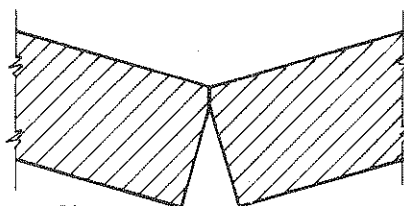
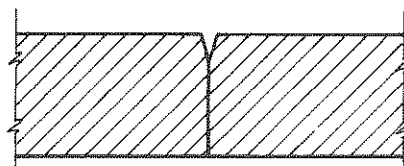
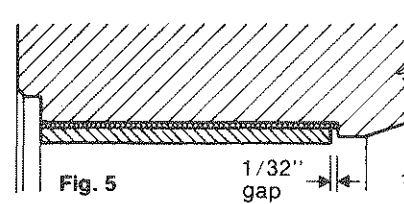

Fig. 3
Fig. 4
Fig. 5
- (e) Take a new wear strip and with chamfer end leading, butt the strip at the chamfers by twisting slightly, Fig.3, (this reduces the lead in diameter) and feed it inside the insulating strip, as it goes in straighten the strip gradually until it butts normally, Fig.4. Slide in as far as possible and complete assembly by tapping gently with a wood block round and round the outside edge. The wear strip is in the correct position when it is flush with the face of the bore, see Fig.5. The .031" gap must be maintained to prevent electrical contact between the wear ring and the intake casting.